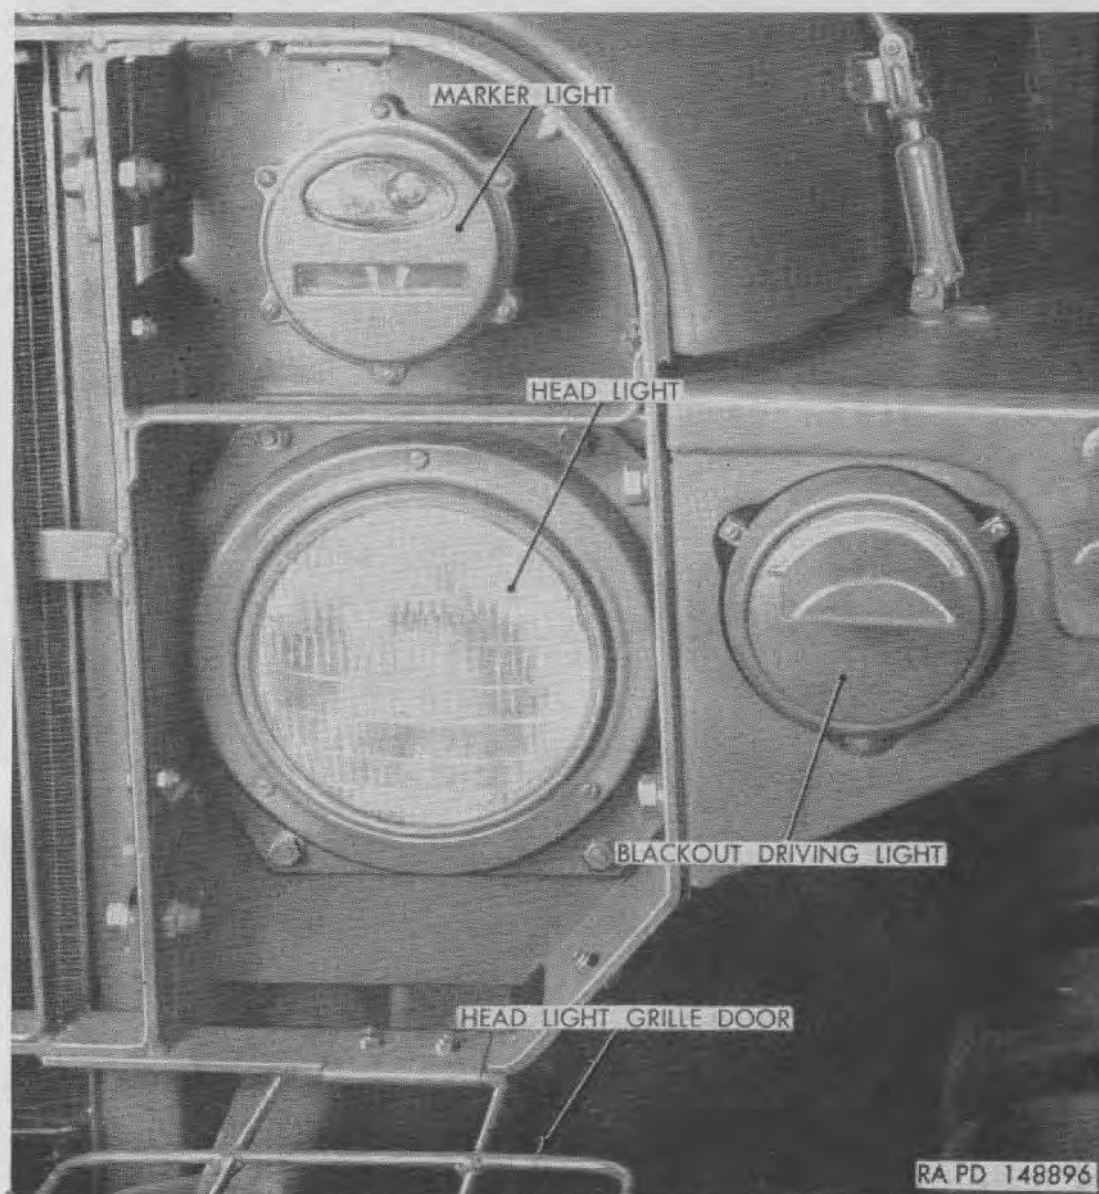

Figure 86. Front lights installed (left side shown).
- (2) *Installation.*
- (c) Position head light and mounting plate assembly on studs in radiator side baffle and secure with four nuts and lock washers (fig. 86).